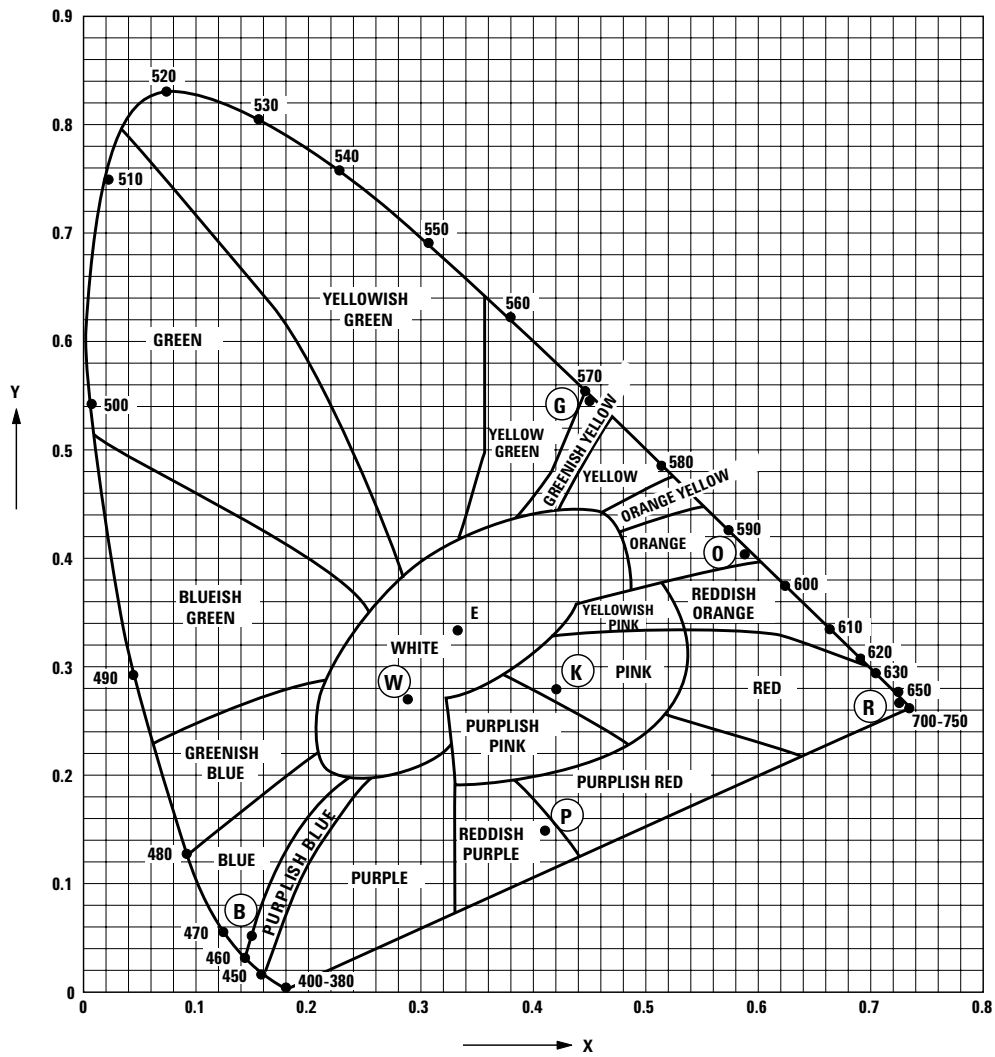

Figure 10. CIE 1931 Chromaticity Diagram.
2. Color coordinates are based on the CIE 1931 Chromaticity Coordinates. See Figure 10.